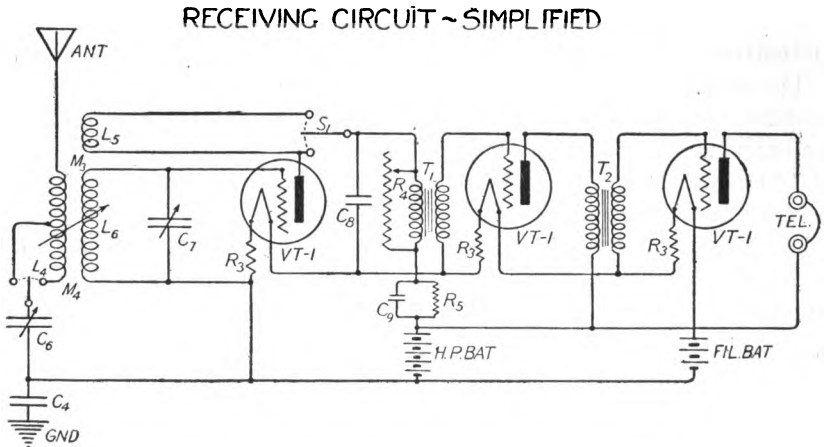

FIG. 6.
16. Receiver.—The primary circuit of the receiver consists of the antenna, the inductance coil L_4 having two taps, a variable condenser C_6 , together with a fixed condenser C_4 and the ground, all in series. The coupling between the primary circuit described above and the secondary circuit is variable in two steps marked "Minimum" and "Maximum," on the control handle. The "Min." gives a 2 per cent coupling while the "Max." gives a 6 per cent coupling. The secondary consists of an inductance L_6 shunted by a variable air condenser C_7 , across which is placed the grid and filament of the detector tube. The two other VT-1 tubes are used as low-frequency amplifiers, they being connected by intervalve transformers. The simplified circuits are shown in figure 6. It is to be noted that the